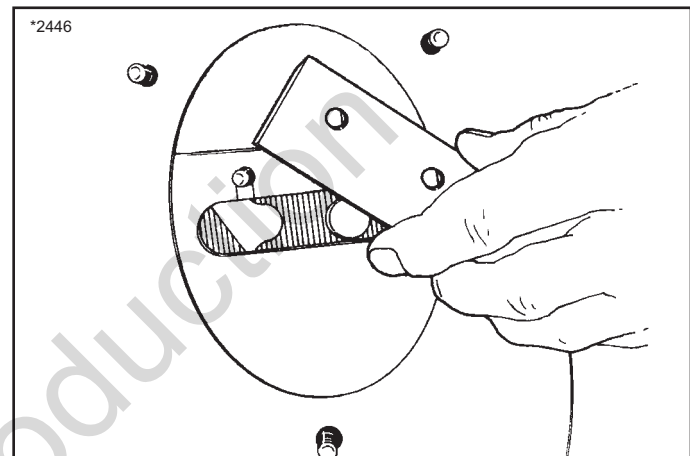

Figure 25. Removing Chipper Knife Through Front Opening
5. See Figure 25. Remove both knives through the opening in the front of the chipper/shredder, and sharpen equally or replace both blades to ensure proper balancing and correct chipping action.